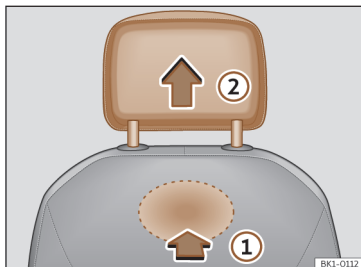

Fig. 100 Front head restraint: removal.
- To unlock it, look for the rabbit on the bottom of the backrest and press in the direction of the arrow >>> Fig. 100 ①.
- Remove the head restraint in the direction of the arrow ②.